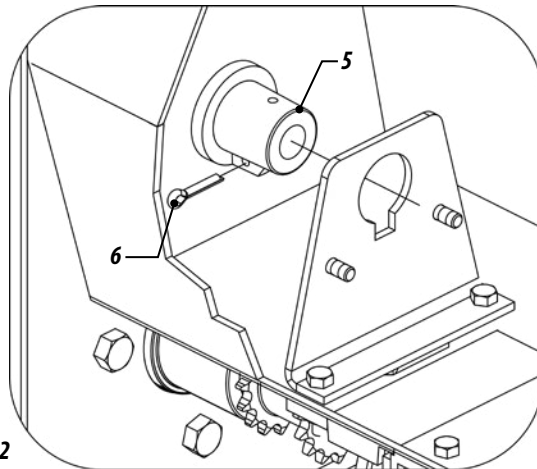

Figure 62
3- Fit the bearing (5) to the support and lock it with the cotter pin (6), Figure 62;